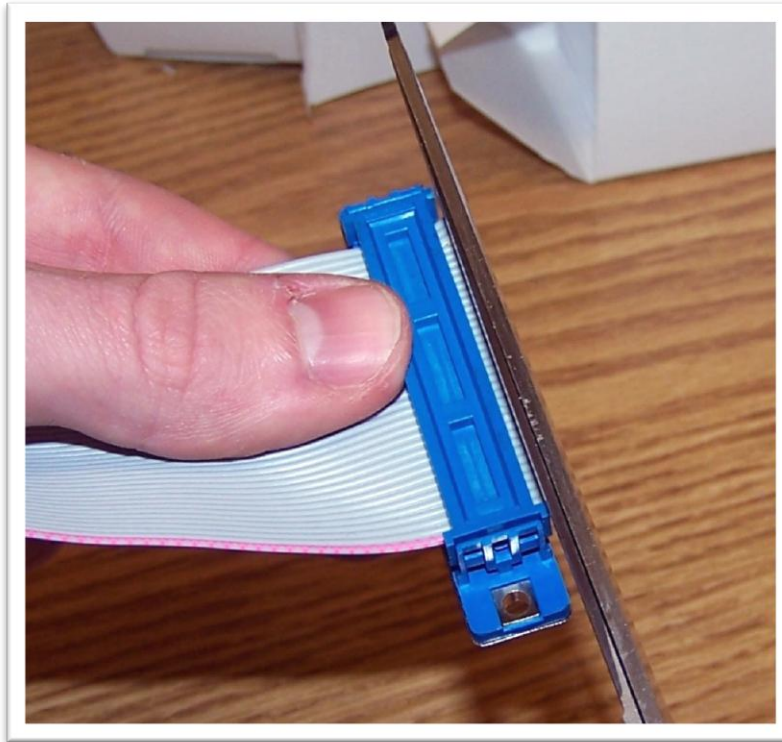

Figure 12: Trim the excess cable.
- 6) Remove the connector assembly from vice and trim extra cable length, Figure 12.